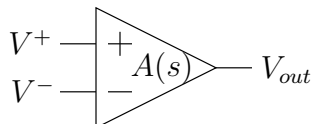

Figure 2: Pseudo Op-Amp Symbol
connected by short leads for the capacitor denoted by C ; you will adjust the value during the standardization portion of the lab. Use disc capacitors ($0.01\mu F$) to decouple the $\pm 15V$ power supplies—place them **on the board** between (1) $+15V$ and ground, and (2) $-15V$ and ground. We will symbolize the pseudo op-amp as in Figure 2.